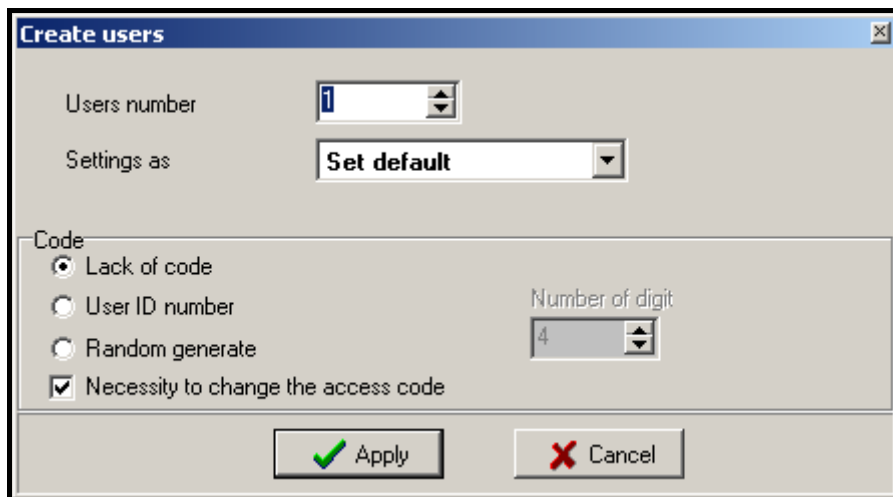

Fig. 25. Window for adding new users.
2. Click with your mouse on the button designated ADD USER. The CREATE USERS window will open (see Fig. 25).
7. Having defined settings of the group, you can assign users to it. The users created earlier can be assigned to the group, e.g. by the “drag and drop” method. The newly created users will be assigned to a selected group, if that group is selected in the SETTINGS AS field of the CREATE USERS window (see ADDING NEW USERS BY MEANS OF ACCO-SOFT-LT PROGRAM and Fig. 25).